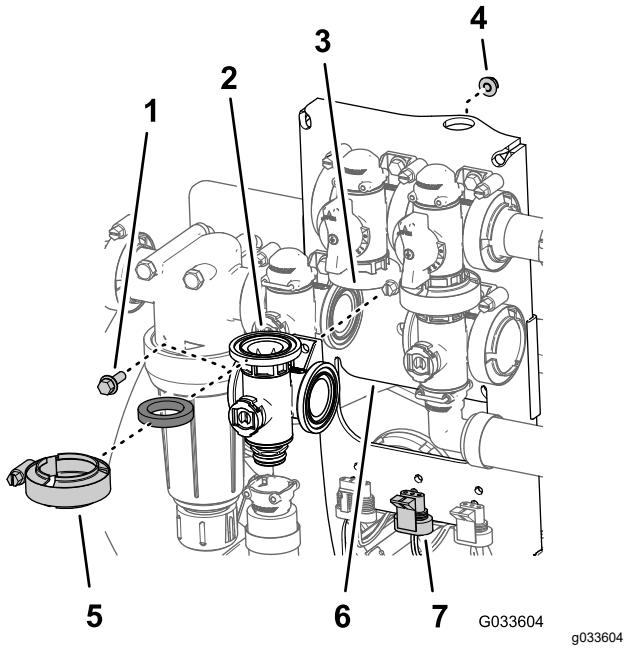

Figure 127
- Align the flange of the agitation-valve manifold, a gasket, and the flange of the agitation bypass valve (Figure 127).
9. Assemble the agitation valve to the valve mount with the flanged-head bolt and flanged locknut (Figure 127) that you removed in step 3 of Removing the Agitation Manifold Valve \(page 79\), and torque the nut and bolt to 10 to 12 N·m (90 to 110 in-lb).